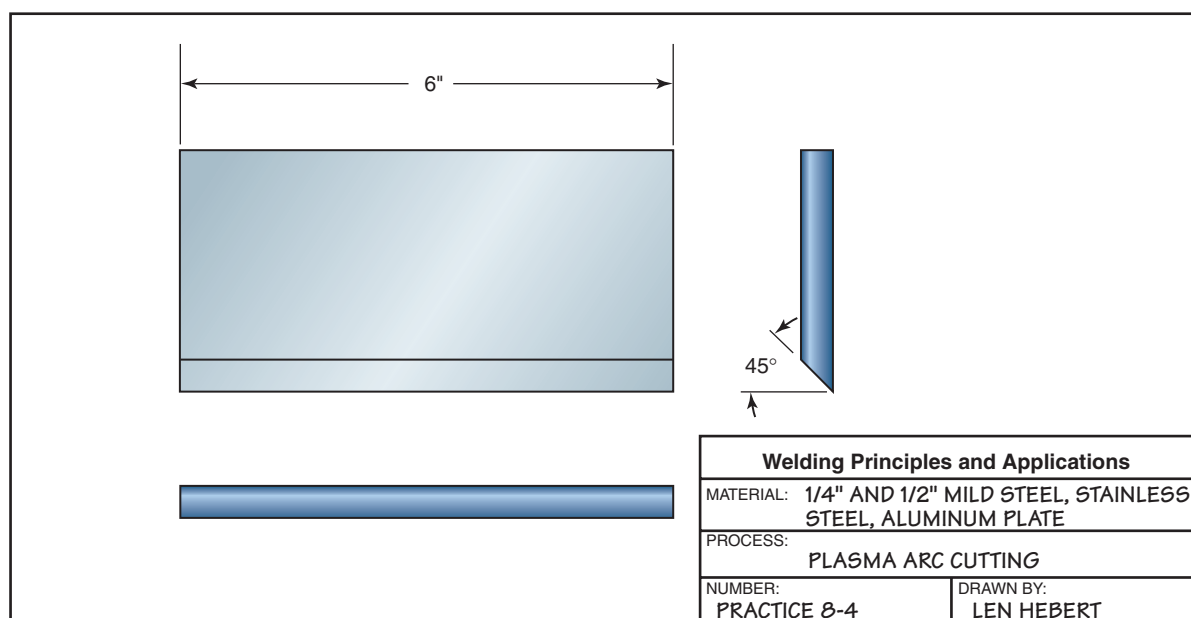

Figure 7.34 Beveled plasma arc cutting
3. Move the torch in a straight line down the plate toward the other end, Figure 7.34.